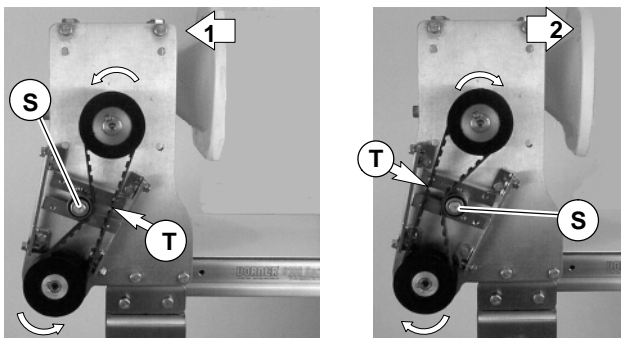

Figure 8
7. Depending on conveyor belt travel (1 or 2 of Figure 8), locate timing belt tensioner (S), as shown. Tension timing belt to obtain 3 mm deflection for 4.3 N of force at timing belt mid-point (T). Tighten tensioner to 51 Nm.